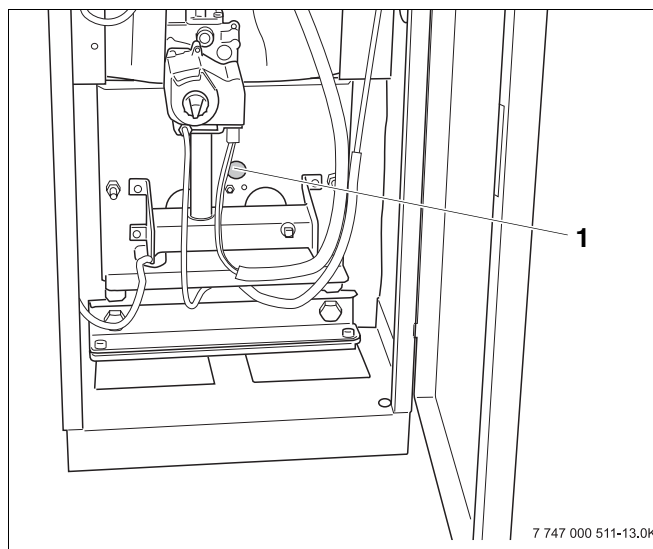
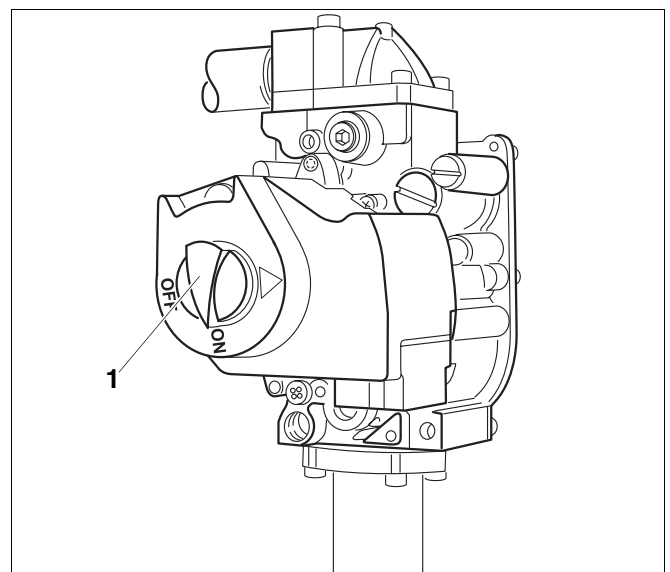

Fig. 9 GC124 II boiler
Fig. 13 GC124 II gas valve
8. Observe main burner flame through the sight glass (→ Fig. 9, page 11) in the burner plate. The flame must show a steady and stable body and generally be of bluish color. If the main burner flame meets the requirements, proceed to step 9. If the main burner flame is weak, yellow, or goes out, turn the ON/OFF knob (→ Fig. 13) on the gas valve clockwise to OFF. Close the gas shut-off and disconnect the heating system from the main power source and contact the customer service technician or the gas company.